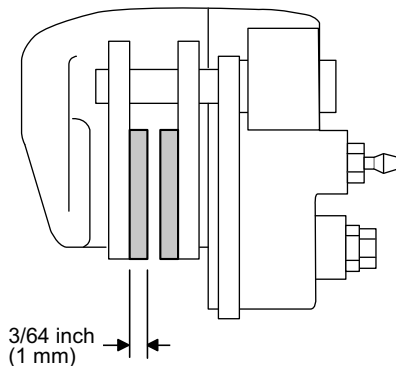

Fig. 2 Check Brake Pad Wear
5. Check the brake pads for wear or damage. Replace the brake pads if worn to 3/64 inch (1 mm) or less (Ref. Fig. 2).